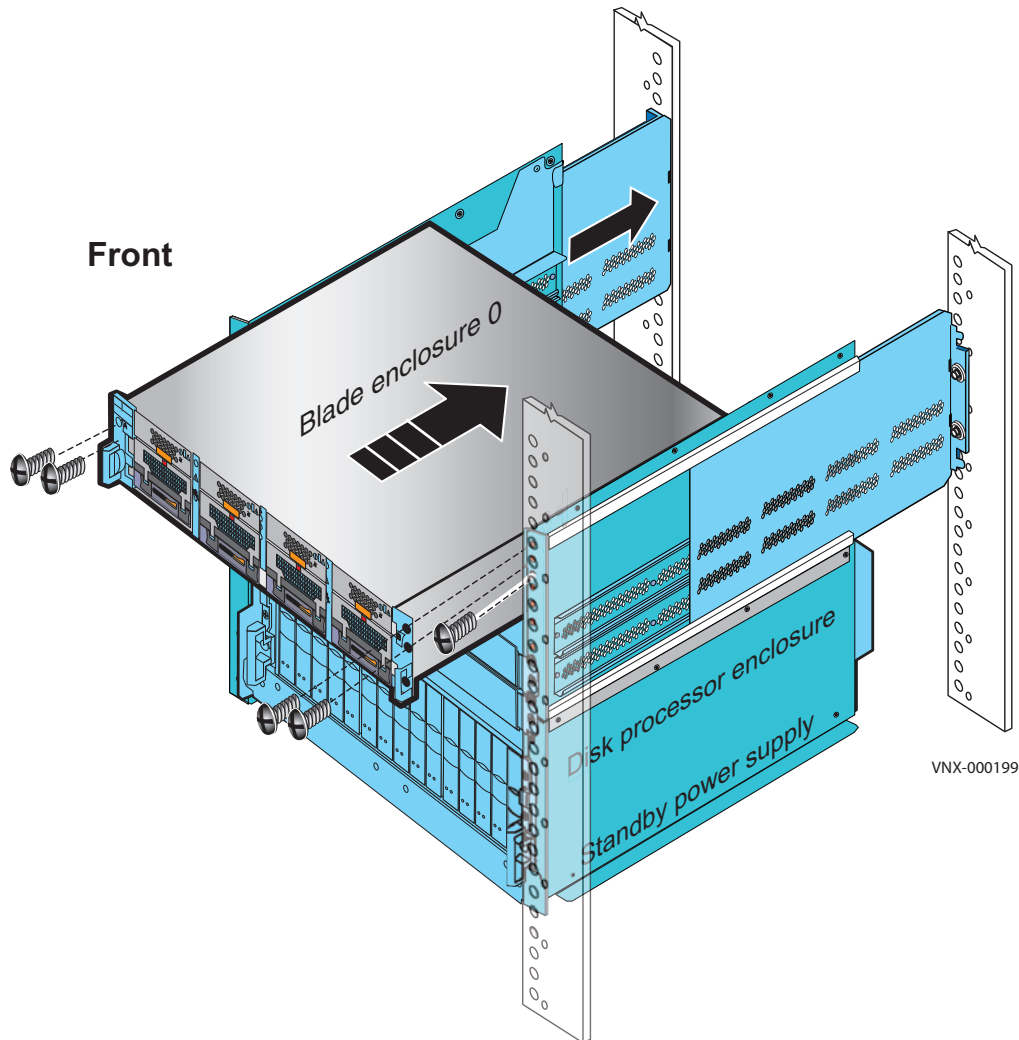

Figure 12 Installing blade enclosure 0
1. Slide Blade Enclosure 0 above the Control Stations of the 8U ganged rails inserting the component into the tabs at the rear of the rails as shown in Figure 12.
2. Working in a diagonal pattern bottom left and top right, bottom right and top left, attach, but do not tighten, the component by inserting the four screws through the blade enclosure, the cabinet rail, and into the ganged rail as shown in Figure 12.